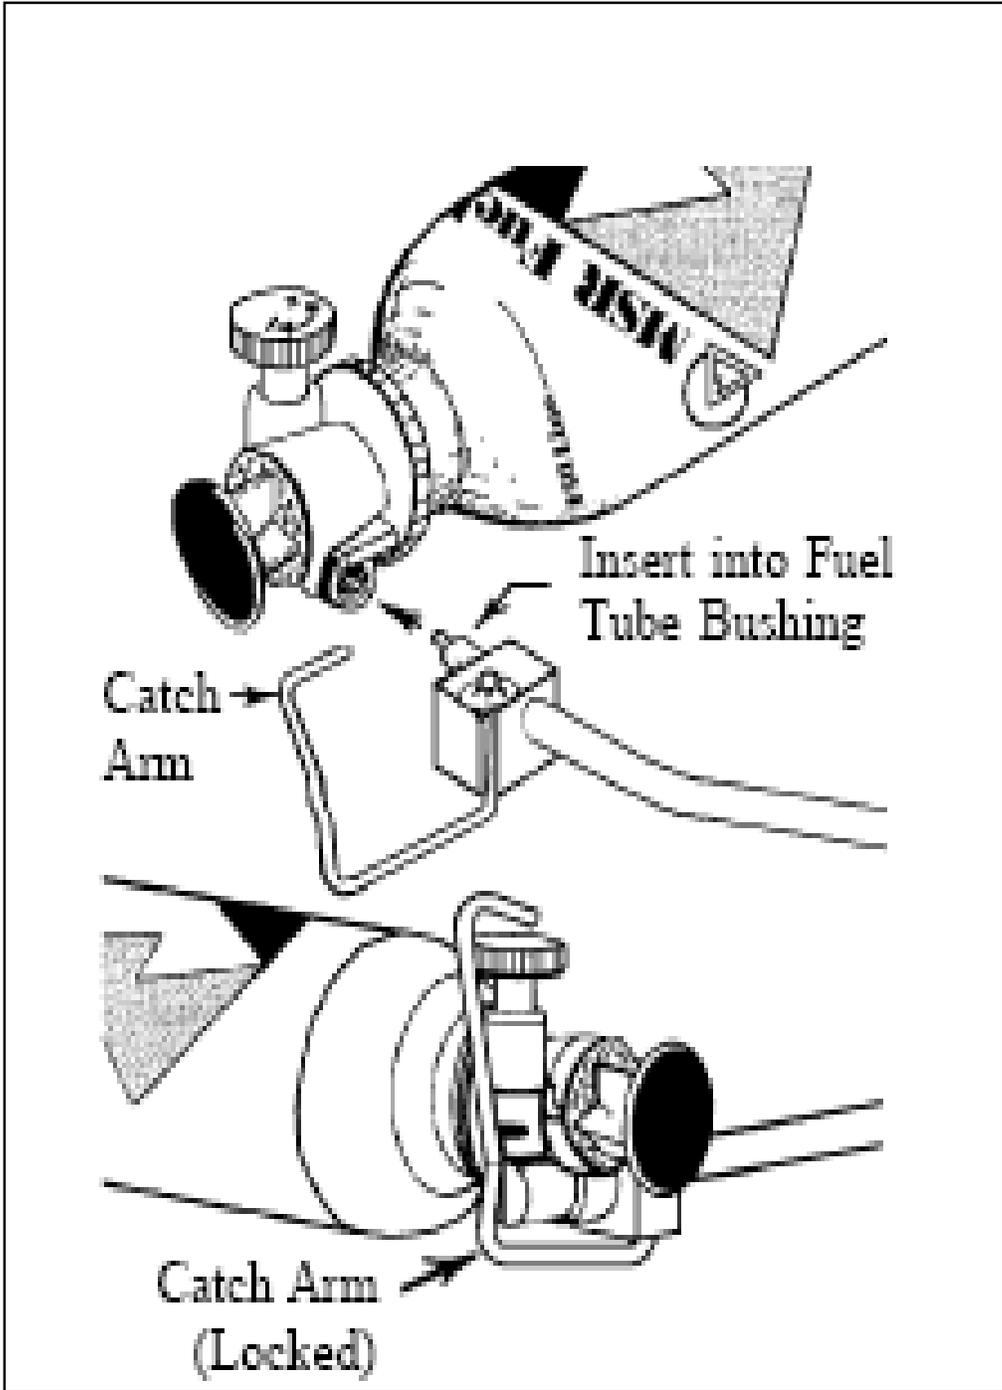

Figure 4
(6) Insert fuel line into the fuel pump until securely seated. Swing catch arm into position so the latch is centered on the fuel valve on the pump assembly. Fuel line will only seat completely to pump assembly if turned to correct position; fuel line insertion "stop" will seat completely if mounted correctly. See Figure 4